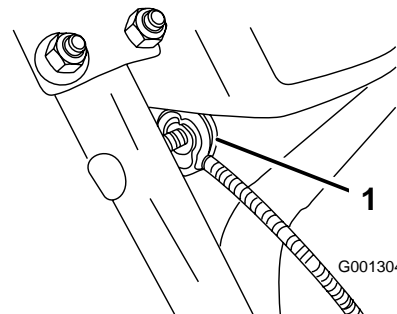

Figure 7
3. Remove the nut and washer from the handle, attach the cable clamp on the cable to the handle, and hand tighten the nut (Figure 7).